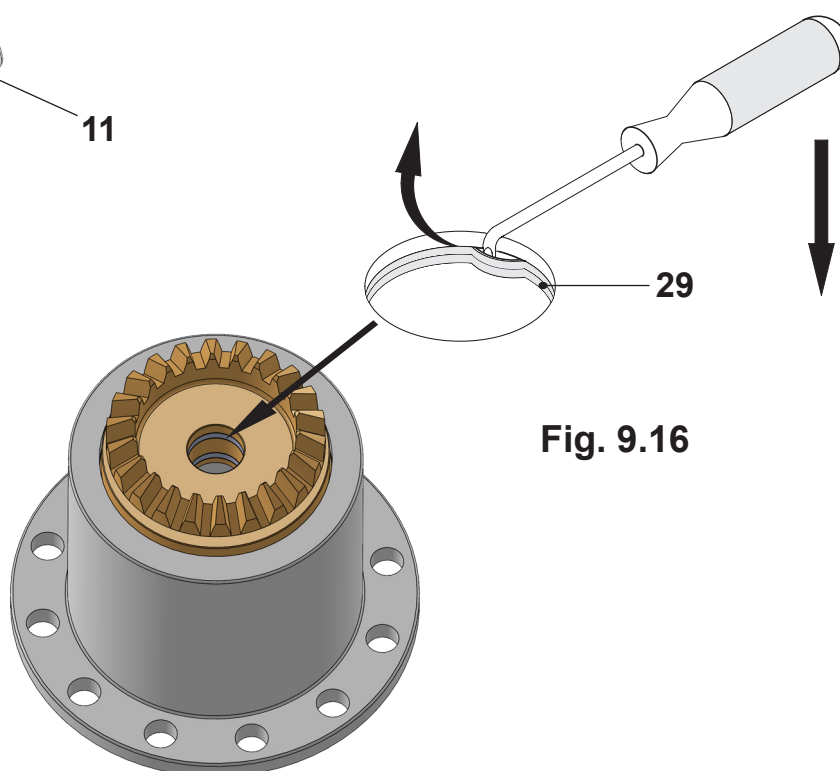

Fig. 9.16
- 9.4.7) Using the dedicated tool, remove the seals and the O-rings pos.29 from their seats (Fig.9.16).